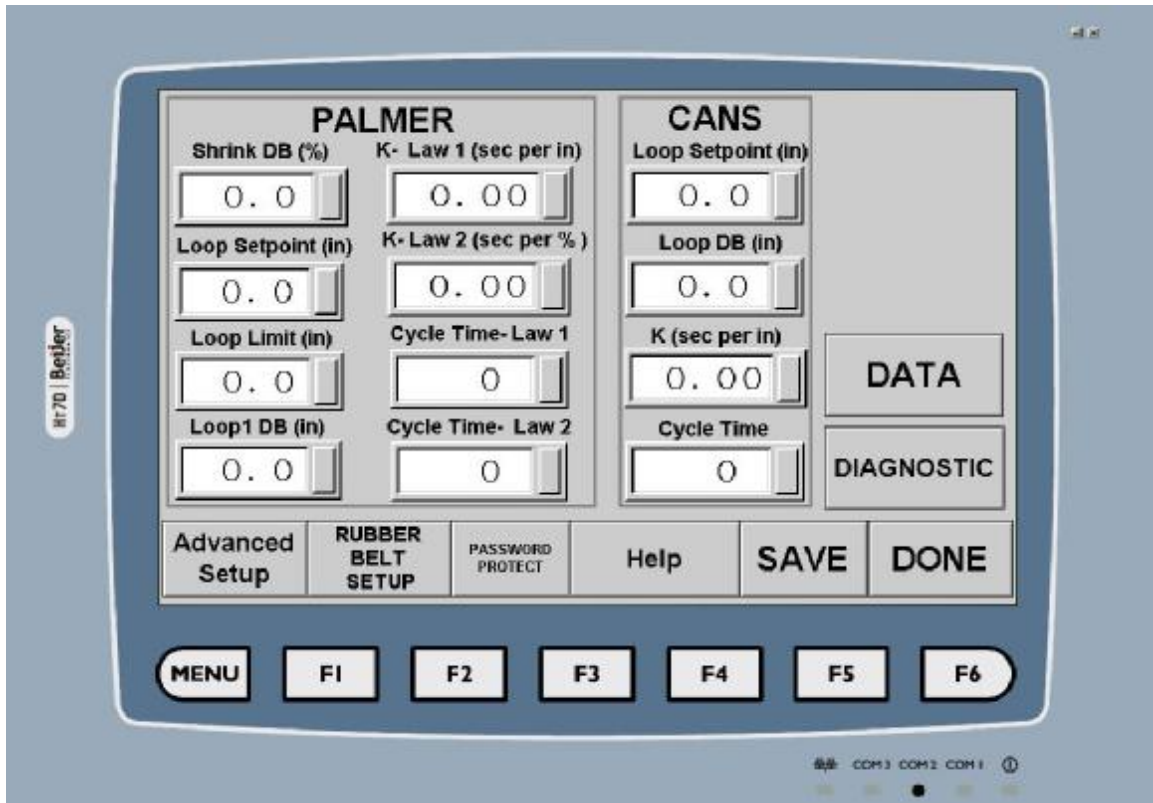

Figure 4
- i. **Shrink DB (%)** - This setting is the ‘Dead Ban’ (DB) around the Shrink Target. It is an upper and lower control limit, if you will that allows the shrink % to vary before the system makes an adjustment. This value is normally 0.1-0.2%.
- ii. **Palmer Settings-** See figure 4.